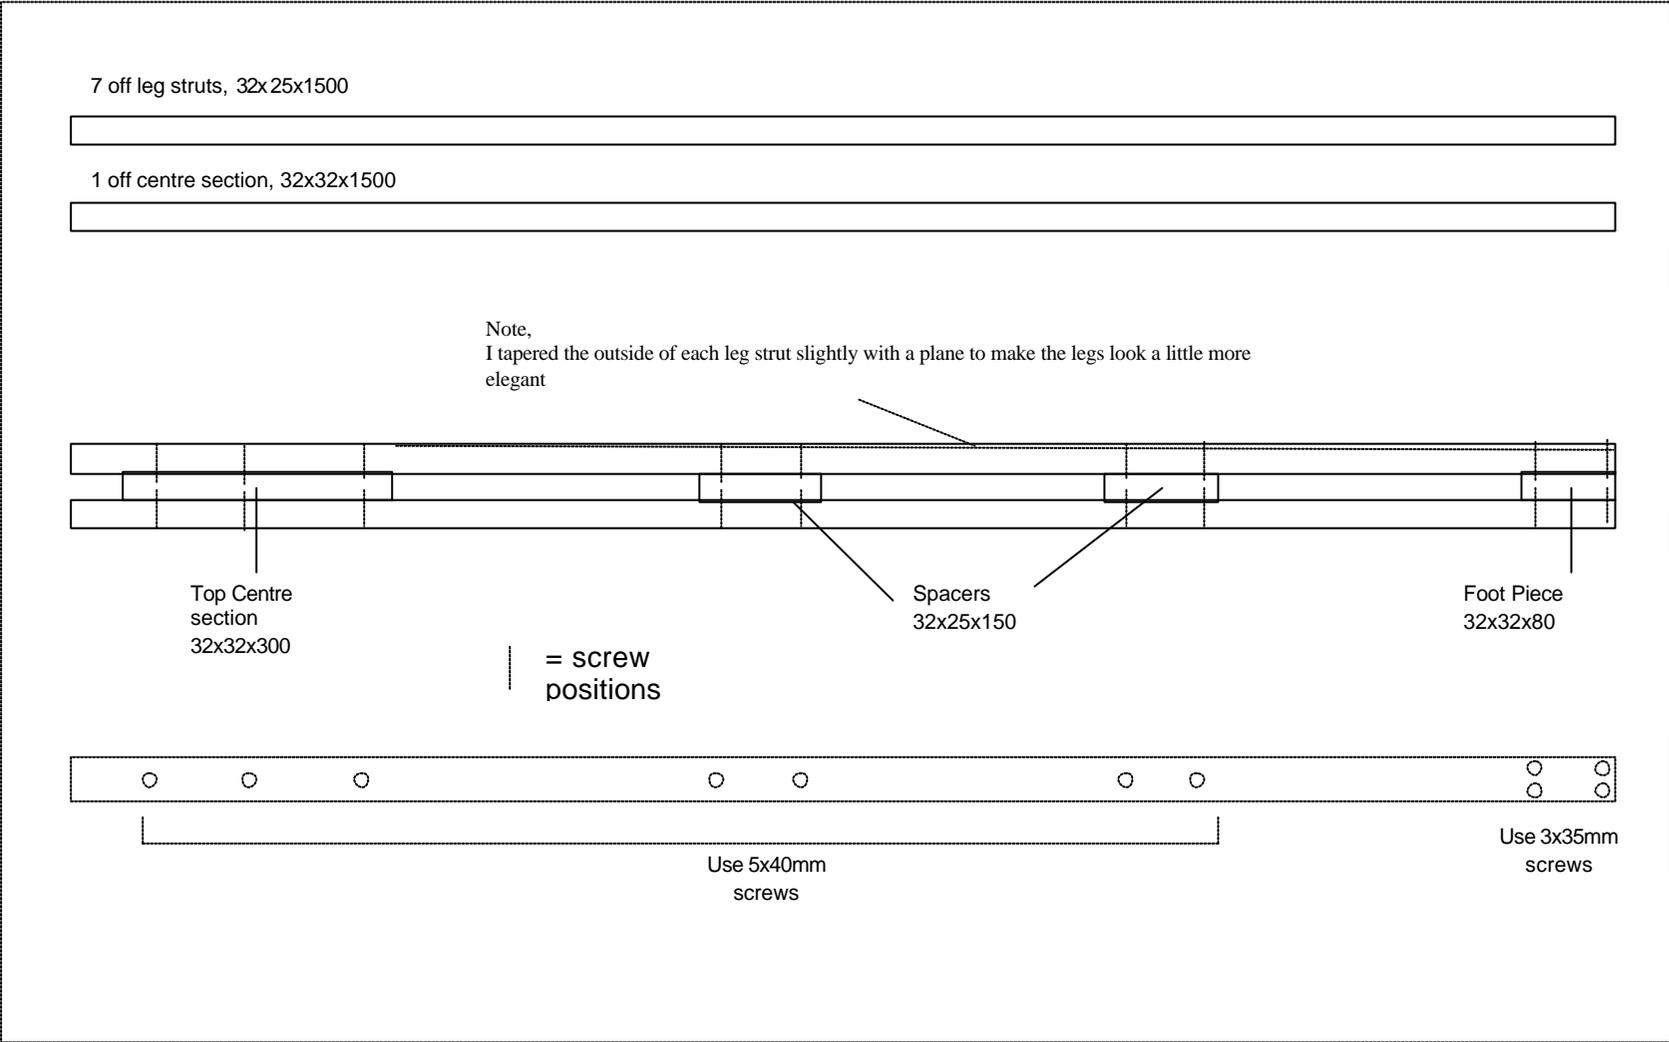

Fig 2
- 1. Cut all pieces to length as per the cutting drawing fig 2 below.